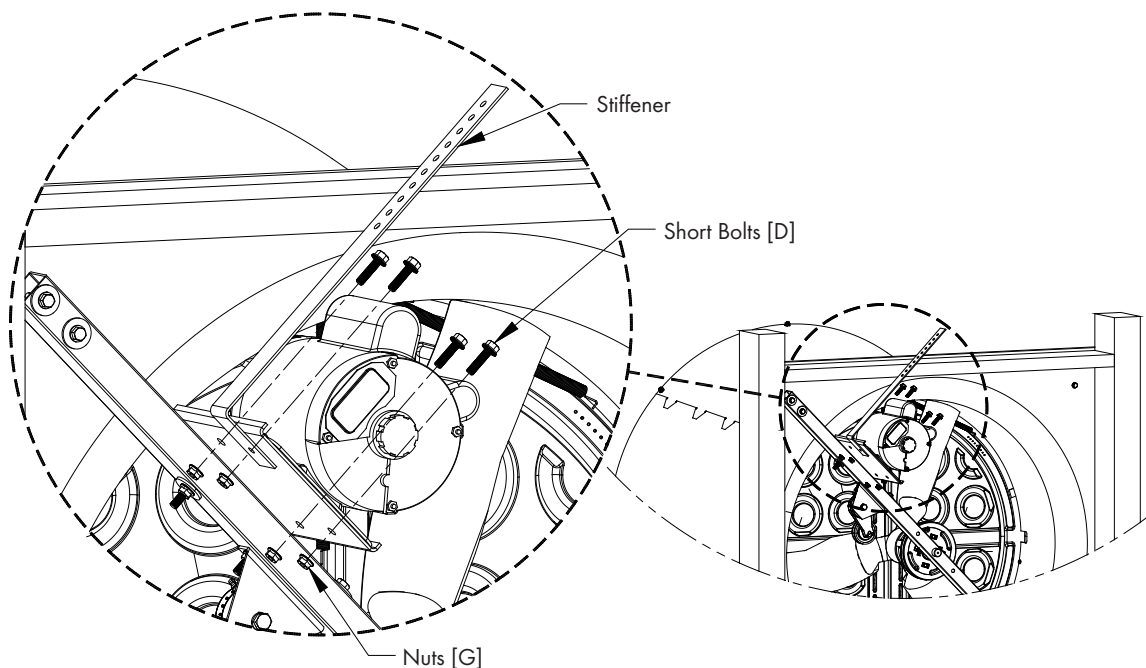

Figure 17A
Secure Motor to Motor Bracket and Motor Bracket Stiffener using (4) Short Bolts [D] and Nuts [G]. The rear upper bolt is where Motor Bracket Stiffener is attached. See Figure 17A.